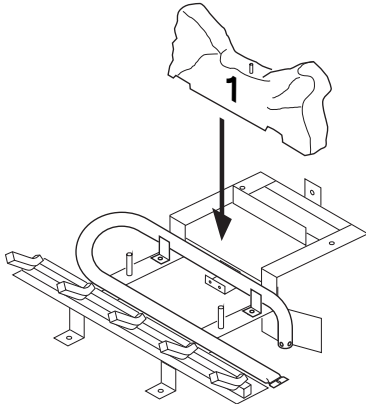

Figure 41 - Installing Log No. 1
1. Place log #1 (rear log) on top of grate. Make sure notches in bottom of log fit over grate (see Figure 41, page 25).